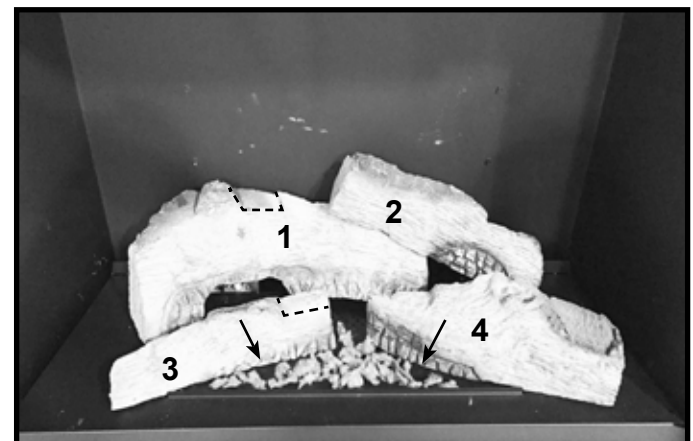

Figure 8.
6. Locate the glowing embers and install them as shown in Figure 1. Do not install any glowing embers on the back row of burner ports. Glowing Embers can be placed directly over burner ports; however, for optimal front flame height, place glowing embers around the burner port clusters indicated by the “arrows” shown in Figure 8.
- The Middle Left Cross Log (6) will rest on the voids and the base pan lip as shown in figure 8. Install log by placing it on top of the log voids. The tip of the log will contact front lip of base pan. See Figure 11.